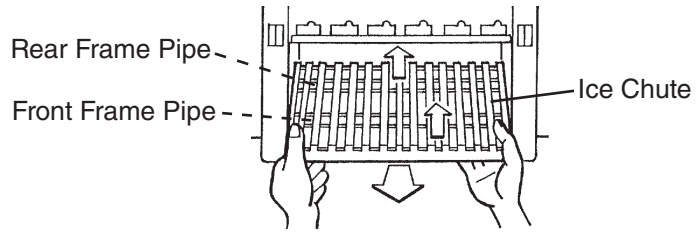

**Fig. 38**
- 3) Remove each separator by lifting it to the horizontal position and pushing it hard inward. See Fig. 38.